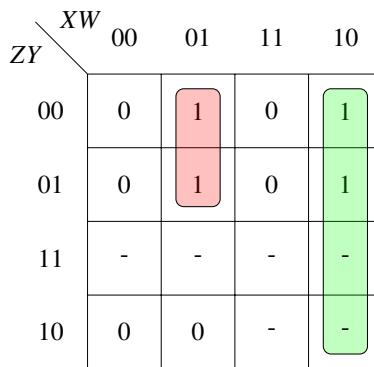

Fig. 4.6: K-map for B with don't cares
3. The revised K-map for B is available in Fig 4.6. Show that